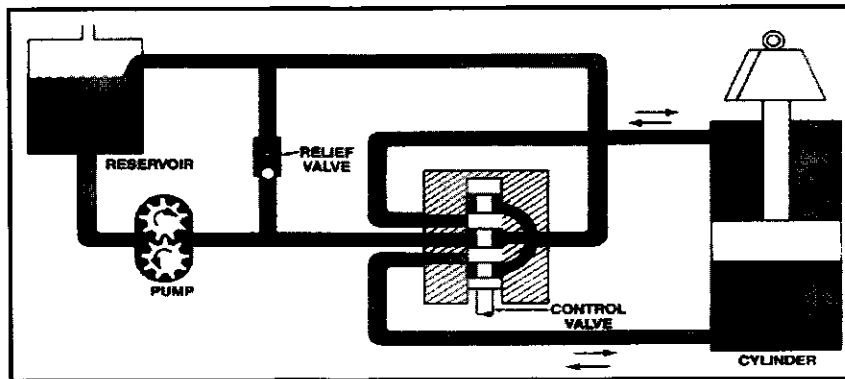

FIGURE Q2(c)
c) Figure Q2(c) shows the basic operation of a hydraulic power system at rest condition when no high pressure is given to pull the plunger.
- i) State the six (6) basic components required for hydraulic power system.